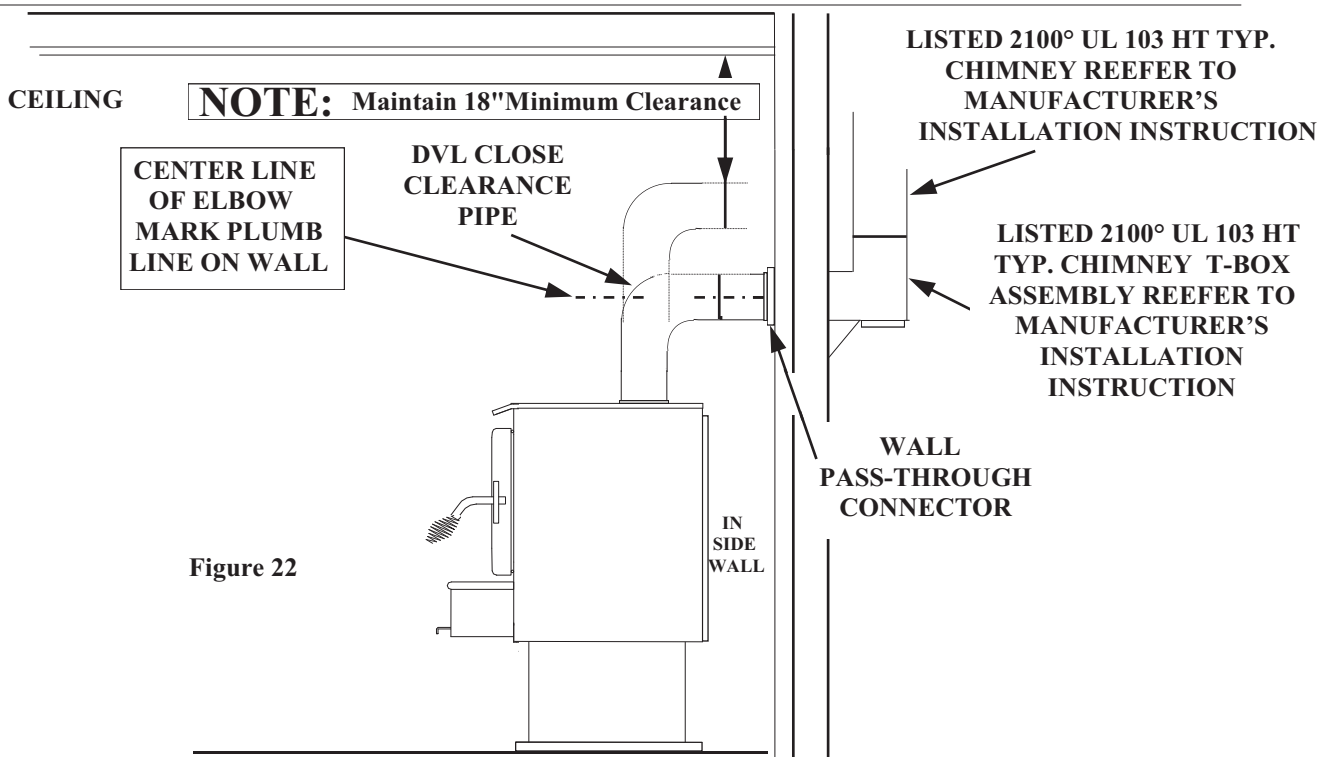

Figure 22
(See Page 24, Figure 22).
3. Measure up so there will be at least 1/4" rise per foot of horizontal connector pipe, maintaining clearances to ceiling as noted in (Page 24, Figure 22). This will give you center of hole for chimney penetration.
5. Connect the DVL close clearance pipe to tee-box, per manufacturer's instructions, DVL close clearance pipe is to be connected with (3) sheet metal screws or rivets to connector collar on heater (See Page 24, Figure 22).